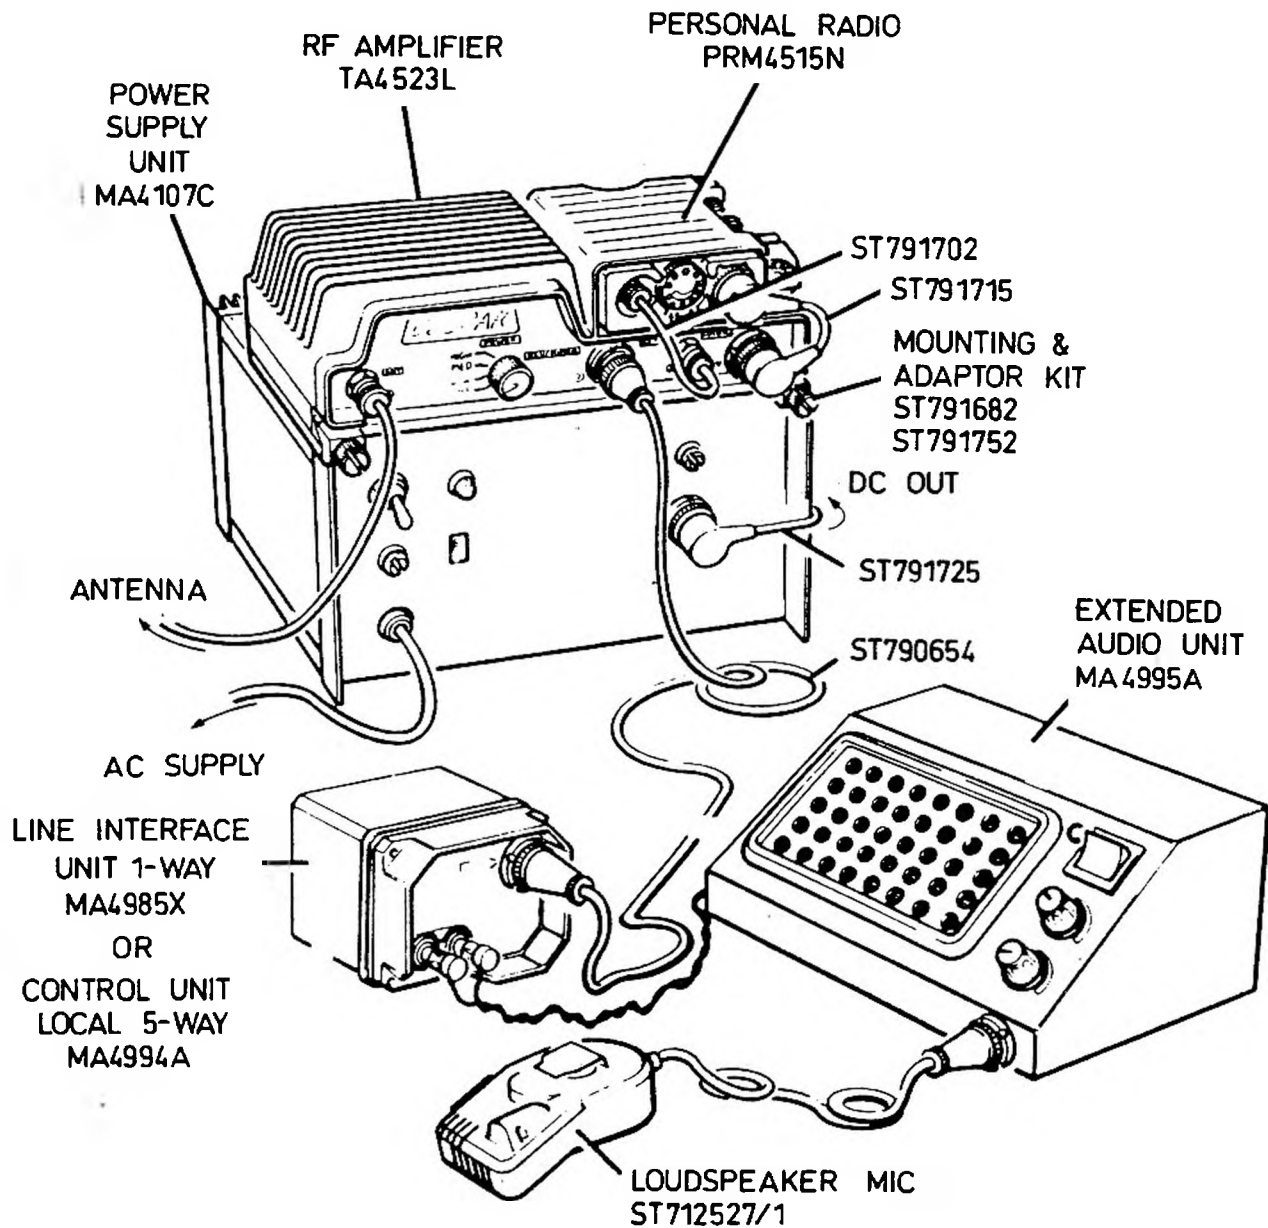

Fig 5 Type 2 base station
3.5 Type 2 Base station (Fig 5). Similar to Type 1 but with the addition of a unit connected by a telephone pair which provides remote audio facilities (but not channel change).